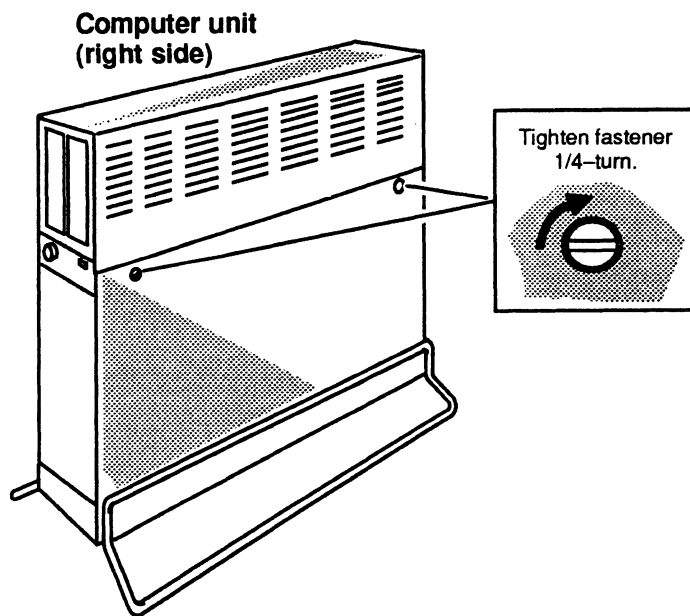

Figure 1-14 Tightening the Side Cover Fasteners
4. Using a coin or screwdriver, turn the two fasteners one-quarter turn clockwise as shown in Figure 1-14 to lock the cover in place.